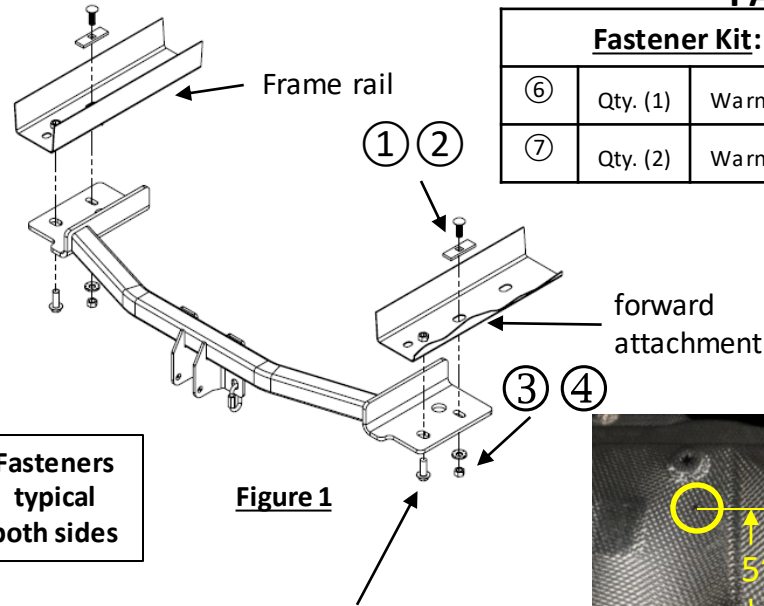

Figure 1
- Install hitch** – Using the supplied pullwires ⑤ install the carriage bolts ① and spacers ② into the vehicle frame through the forward attachment, see **Fig. 4**, leave pullwires attached. Make sure weldnuts are free from rust and debris. Raise the hitch into position and align holes in hitch bracket to the frame rail weldnuts guiding the pullwire ends through holes in the hitch bracket and loosely reinstall the M16 bumper bolts removed in step 4. Remove pullwires, install conical washers ③ (teeth side toward hitch) and nuts ④, see **Figure 1**.